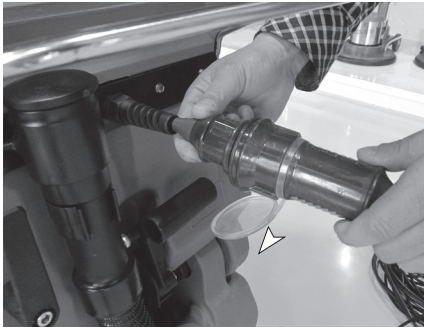

Figure 4
3. Connected the external power cable to the machine's power port with care following the diagram below (Figure 4).